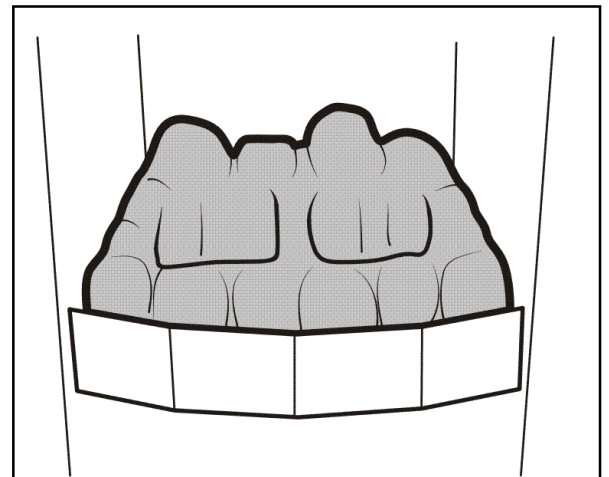

Figure 25 Rear base pebble position
1. Place the base pebble in the firebox. It should rest on the ledges at the rear sides of the burner unit (See figure 25).